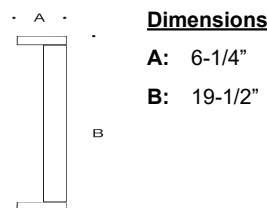

Figure 1:
2. Assemble anchorage kit. Unscrew the (3) 5/16" hex bolts from the female couplers. Remove each hex bolt and washer. Align each anchor bolt with the hole in the template. Attach each anchor bolt to the template by replacing the washer and hex bolt and tightening. Do not remove nuts and washers from bottom of anchor bolt; this provides the pullout force. See Figure 1.
- A. Attach template to forming or cross bracing using the (2) nail holes provided in the template. Level template properly. Pour concrete.
- Note:** Bollard has free rotation for aiming. However, to avoid set screw aligning with notch in bollard base, recommended anchor orientation is shown in Figure 1.
5. Place template and screw (3) hex bolts to anchor bolts.